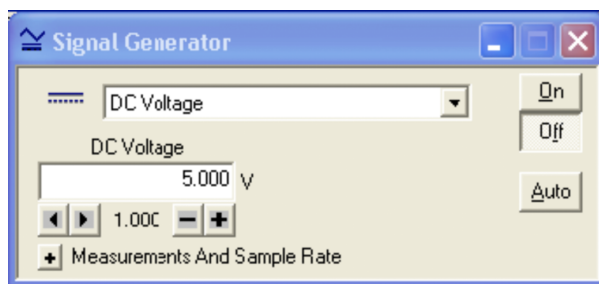

Figure 4: Signal generator window
- 1 Open the appropriate DataStudio file associated with this lab. The screen should contain a signal generator window similar to the one shown in Fig. 4.